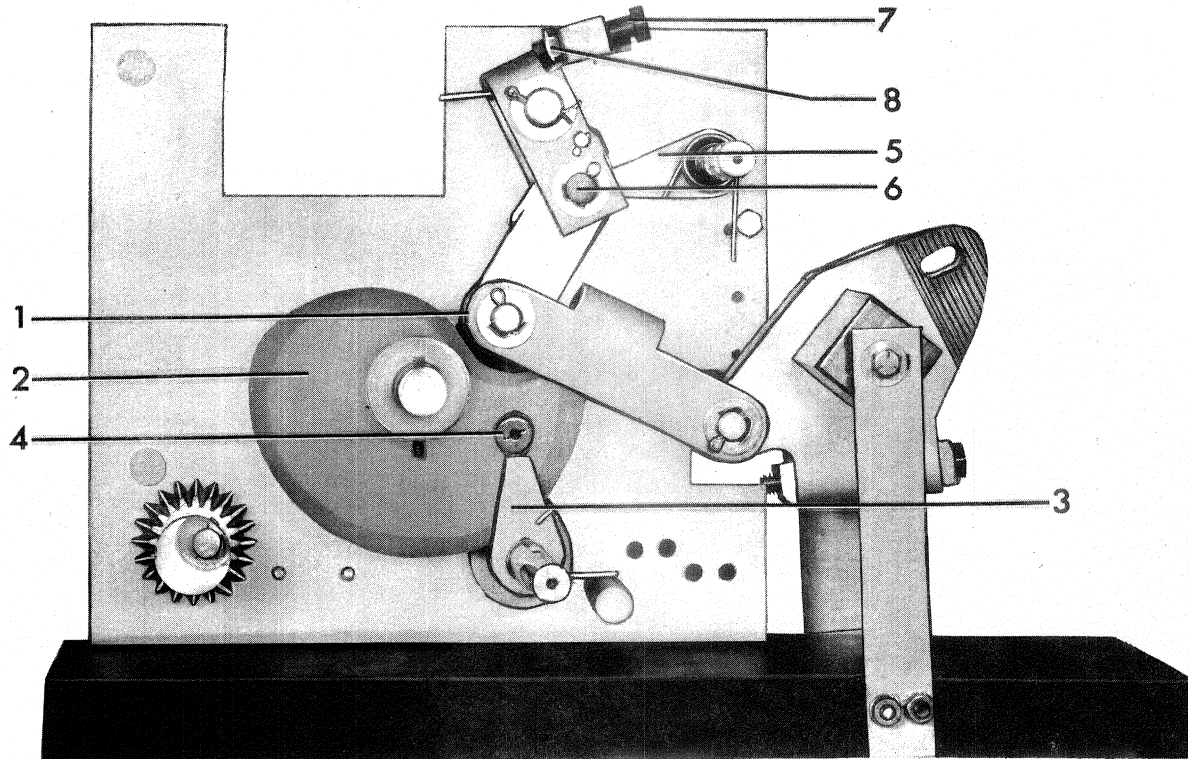

Figure 15. (8039445) Mechanism Linkage (Motor Mounting and Upper Plate of Mechanism Frame are Removed)
The cam follower (1) Fig. 15 and latch roller bearings (4) (6) should be first removed from the mechanism and the inner race disassembled. They should then be placed in a container of clean petroleum solvent or similar cleaner. DO NOT USE CARBON TETRACHLORIDE. If the grease in the bearings has become badly oxidized, it may be necessary to use alcohol (type used for thinning shellac) to remove it. Ordinarily, by agitating the bearings in the cleaning solution, and using a stiff brush to remove the solid particles, the bearings can be satisfactorily cleaned. Do not handle the bearings with bare hands as deposits from the skin onto the bearings are inducive to corrosion. If the bearings are touched, the contamination can be removed by washing in alcohol. After the bearings have been thoroughly cleaned, spin them in a clean new light machine oil until the cleaner or solvent is entirely removed. Allow this oil to drain off and then repack them immedi-